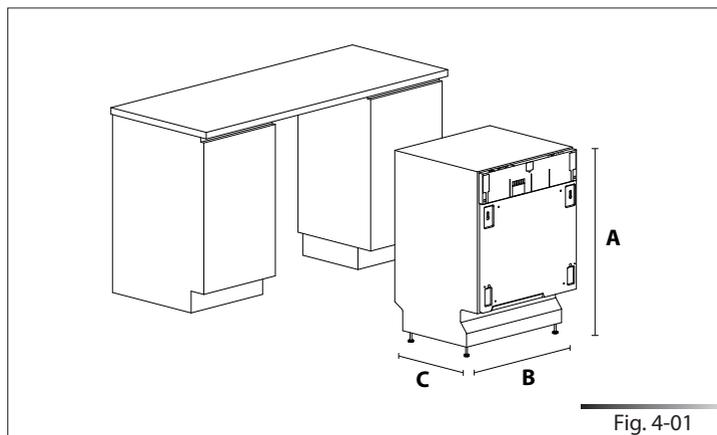

Fig. 4-01
*The progressive number of each figure is shown in the bottom right-hand corner of the relative box. An example of a progressive number is "Fig. 4-01", where the first number (4) indicates the section to which the figure belongs, while the second number (01) indicates the progressive number of the figure in section 4 (Fig. 4-01 is the first figure in section 4). The tables are numbered in the same way, bearing in mind that "Tab." is used instead of "Fig." (e.g.: Tab. 4-01 is the first table in section 4). If a table occupies more than one page, a letter is added after the progressive number (e.g.: "Tab. 4-01a", Tab. 4-01b").*
## 4 DIMENSIONS OF DISHWASHER (See fig. 4-01)